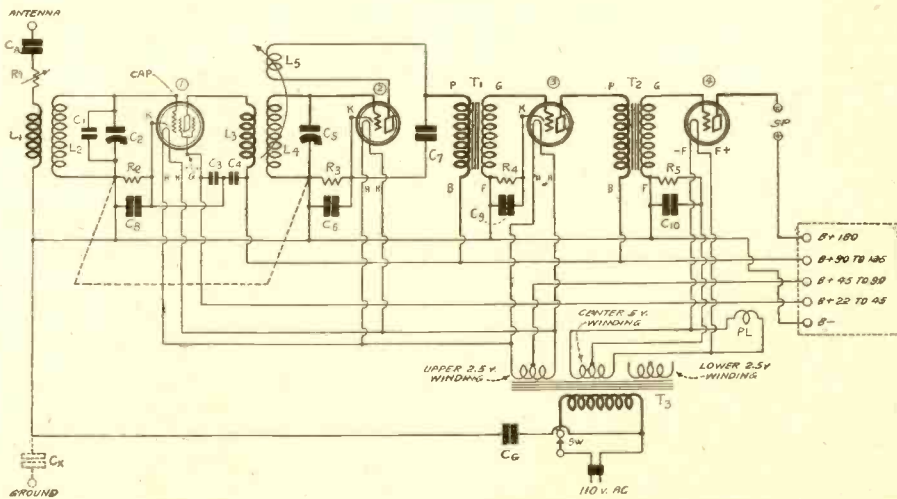

FIG. 755
(1)—See Fig. 755 for such a receiver.